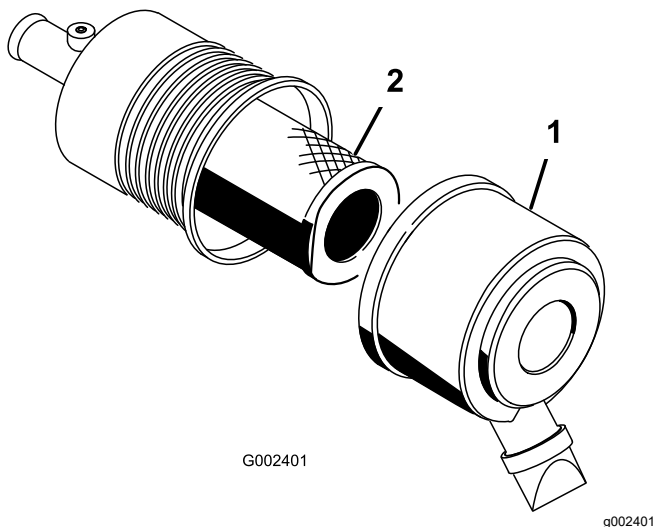

Figure 54
1. Release the latches securing the air-cleaner cover to the air-cleaner body (Figure 54).
2. Remove the cover from the air-cleaner body (Figure 54).
4. Remove and replace the filter (Figure 54).